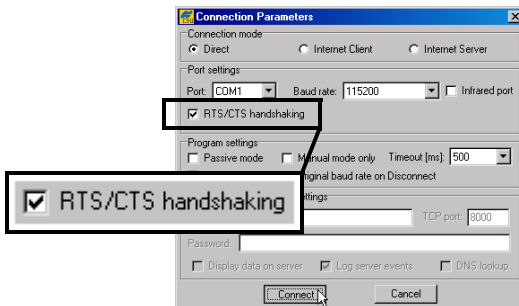

Figure 3-40. Connection Parameters – MINTER Settings
5. Click **Configuration ▶ Receiver** then click the **MINTER** tab, set the following parameters and click **Apply** (Figure 3-40). See the following pages for descriptions of these parameters.